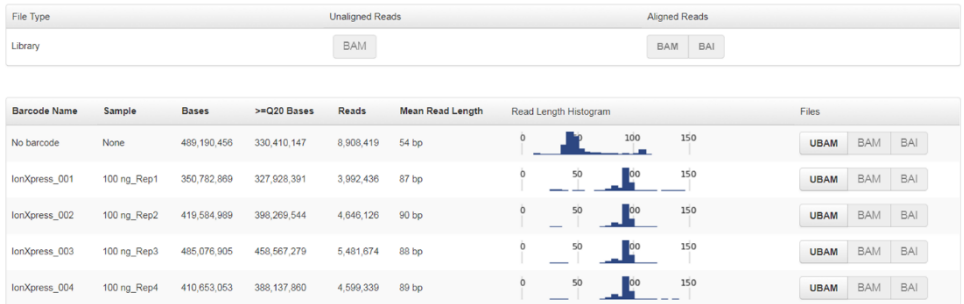

Figure 5. Output files, unaligned reads in BAM format.
6. When the run is complete, navigate to the report page on the Ion Torrent Server. Locate the **Output Files** section near the end of the report (Figure 5).